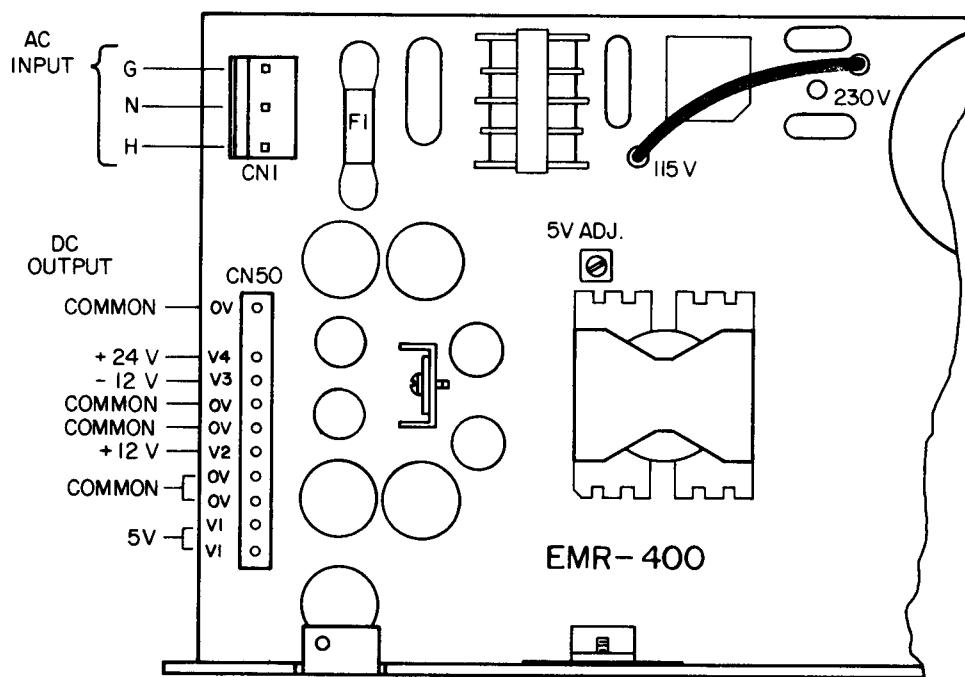

FIG. 1 SIMPLIFIED TOP VIEW, MODEL EMR 400K POWER SUPPLY.
by means of an internal trim pot. (See Fig. 1). All other outputs
**INPUT VOLTAGE SELECTION (See FIG. 1).** The Model EMR 400K power supply is delivered for operation on 85 to 130V a-c power lines (wire-jumper in the "115V" position.) For operation on 170-260V a-c power lines, change the jumper to the "230V" position.
**TERMINATIONS:** See FIG. 1.